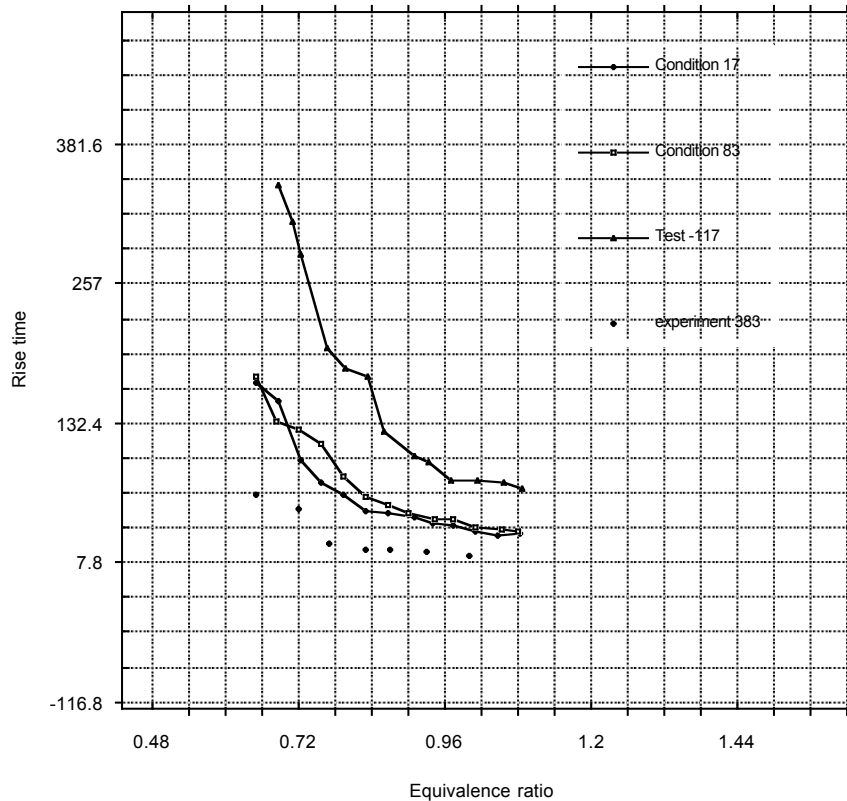
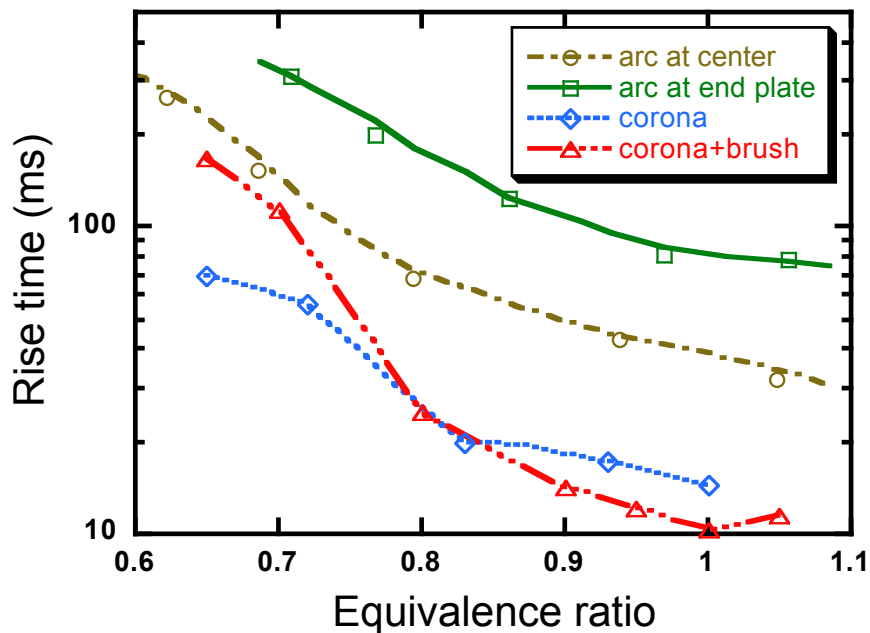

Figure 26a. Terrible figure.
Figure 26b. Reasonable figure presenting same data as in Figure 26a.
Figure 26a shows a terrible figure with many common mistakes. What's wrong?
*A big part of the problem is that most people just let their plotting program make bad plots using all the default settings, and somehow try to rationalize that still a good plot. **Figure 26b** shows a reasonable figure presenting exactly the same data as **Figure 26a**.*
distinguish between different data sets (as in Figure 26b above) that it is to distinguish between data sets by looking at the different symbols.